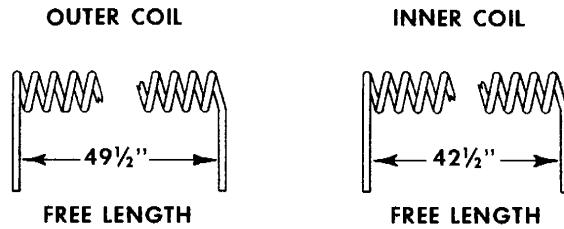

Figure 3 - Stretch Replacement Coils.
4. Stretch the replacement coil to the proper free length, Figure 3.